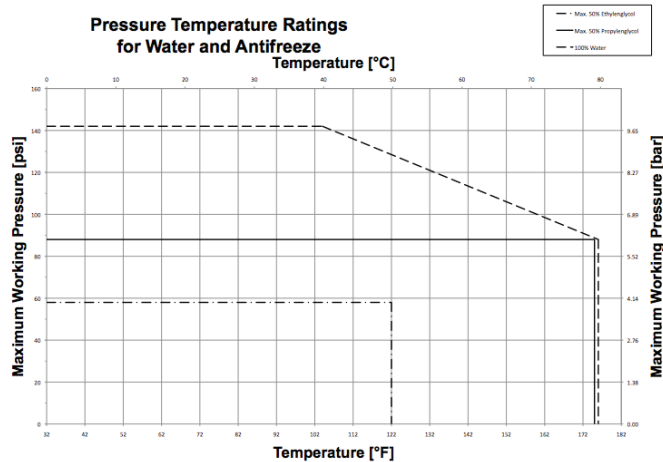

Fig. 2: Manifold temperature and pressure capabilities
- Propylene glycol and ethylene-based glycols at maximum 50% concentration are recommended within temperature pressure ratings as shown in Fig. 2 in case freeze protection of system is necessary. Alcohol-based glycols are not permitted because they can lead to system failure.